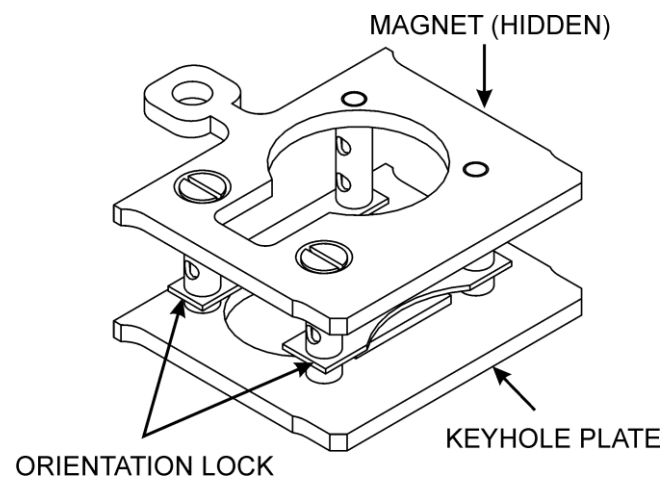

Figure 20. The VT STM XA tip transfer plate.
3. Move the scanner towards the narrow end of the keyhole (press $\pm X$ on the remote box) until the tip holder is attracted by the small magnet, see figure 20.